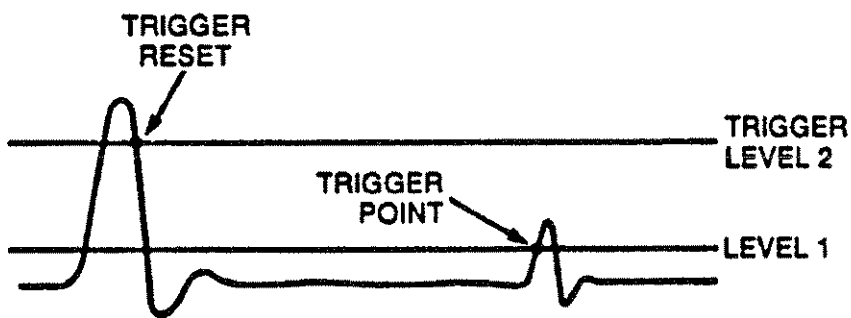

Fig. 1-6 Positive hysteresis trigger example.
**+ Hysteresis:** In this mode, the trigger circuit generates the trigger pulse when the positive-going trigger signal crosses the selected trigger level determined by Trigger Level 1. After the RTD 710A recognizes the first point determined by Level 1, a negative-going trigger signal must pass through the selected Hysteresis level determined by Trigger Level 2. Figure 1-6 shows a signal on which triggering is difficult using normal triggering methods but easy using the Hysteresis trigger.